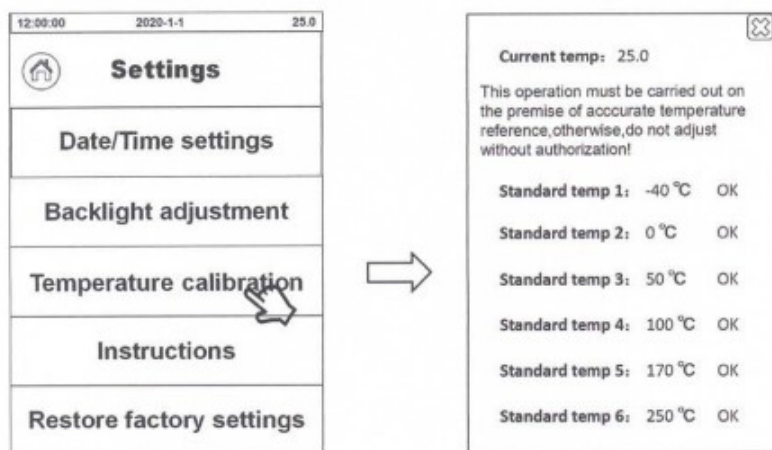

Fig. 30
3. Temperature calibration: This function allows the user to self-calibrate the temperature value measured by the temperature sensor. (Fig.30).